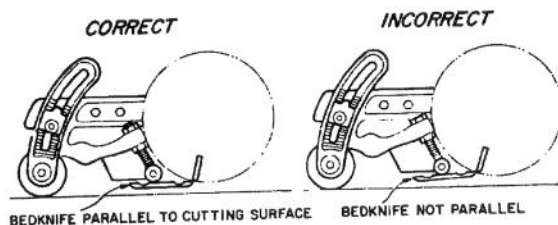

Figure 7
2. Check bedknife attitude. When viewed from the side, bottom of bedknife must be parallel with flat surface or raised at the rear (Fig. 7). If bedknife is not parallel with flat surface (Fig. 7), adjust rod ends; refer to Fig. 47, page 18.